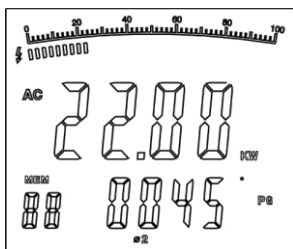

Figure 9
2. After recording the current power measurement value of the first phase, then press **SEL** to choose  $\text{②}$ . The double display shows the value of active power kW and PG of the second phase **2**, as in figure 9.